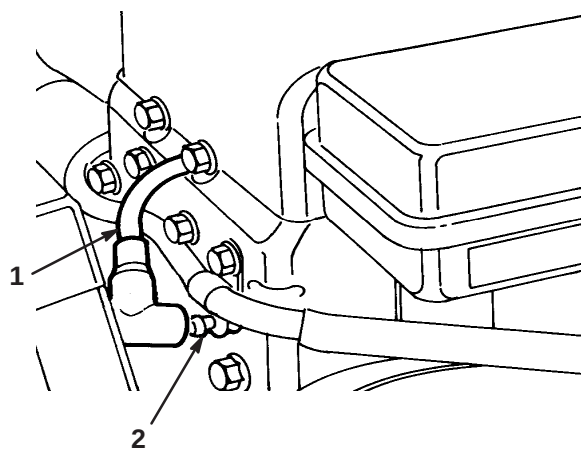

Figure 12
1. Remove the wire from the spark plug (Fig. 12).
2. Pull the wire off the spark plug (Fig. 12).
3. Push the wire(s) onto the spark plug (Fig. 12).